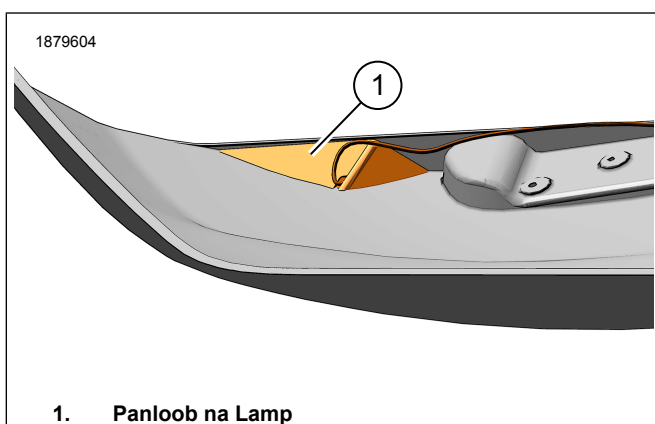

Figure 6. Saddlebag Interior Lamp, Kaliwa
7. Figure 6 Test fit at i-install ang interior lamp (1).